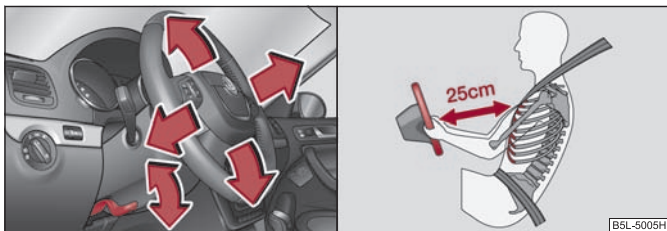

Fig. 105 Adjustable steering wheel: Lever next to the steering column / safe distance to the steering wheel
- Pull the lever below the steering wheel down ⇒ fig. 105 - left ⇒ ⚠.
- **The driver must maintain a distance of at least 25 cm to the steering wheel ⇒ fig. 105. Not maintaining this minimum distance will mean that the airbag system will not be able to properly protect you - hazard!**